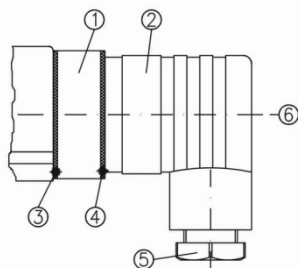

Fig. 7
- ↪ Loosen the central screw ⑥ M3x35 and disconnect the cable socket ② from the connector ① (→ Fig. 7). Pull the central screw ⑥ out of the cable socket ②.